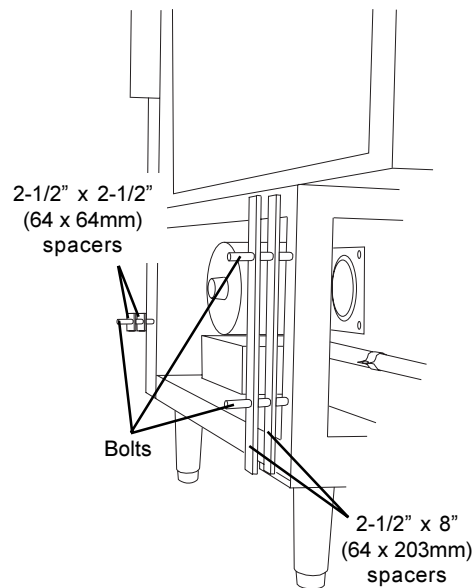

Figure 2-9 - Bolts and Spacers
4. Insert three of the supplied 1/2 x 5" bolts through the holes in the frame of the right oven, pointing outward as shown in Figure 2-9. Then, slide the spacers into place on the bolts.